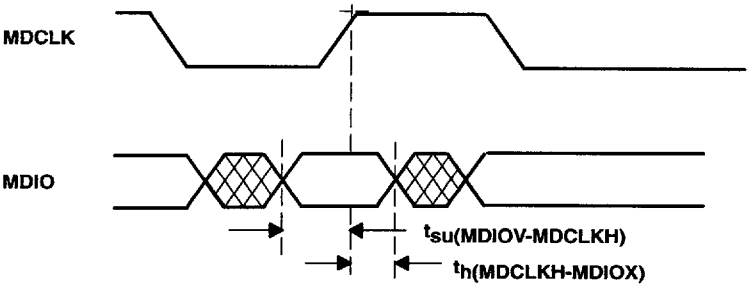

Figure 6. Management Data I/O Timing (Sourced by TNETE110PM)
**switching characteristics for management data I/O (MDIO) (see Figure 6)**